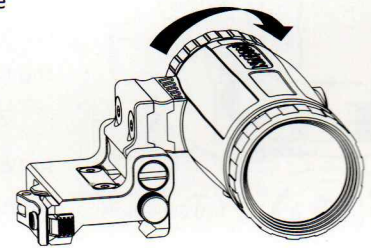

Figure 3
2. The magnifier can be flipped to the side 90 degrees (as shown in Figure 3).
- 1) Rotate the magnifier 90°, as shown in Figure 3;